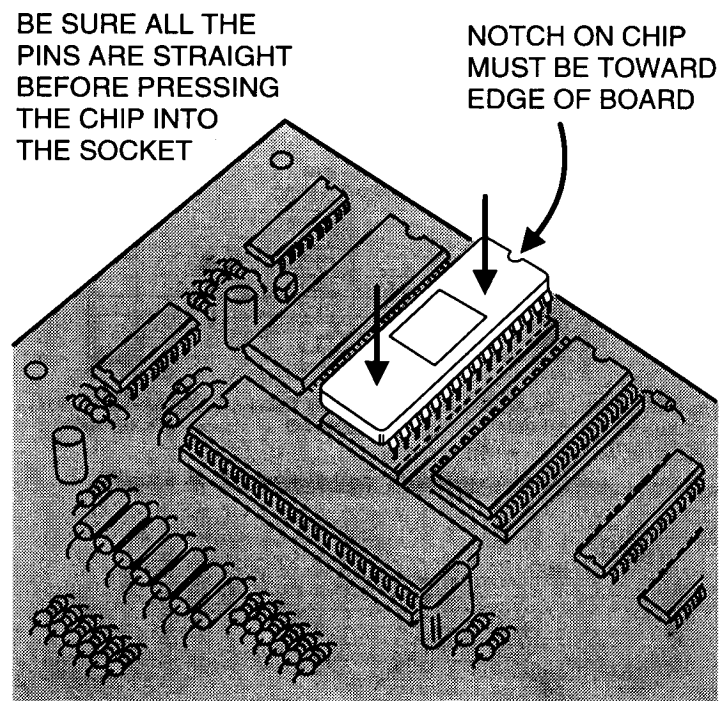

Figure 56. Inserting New Program Memory Chip
**STEP 5** Insert new program memory chip. Remove the new chip from its static protection foam. Verify that all the chip's pins are straight. Carefully insert the new chip into the socket with the notch on the chip towards the top edge of the circuit board. Be sure all the chip's pins are going into the socket correctly before pressing the chip firmly into the socket (see Figure 56).